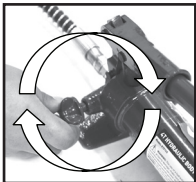
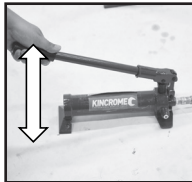

Fig.11
Fig.12
- To operate the hydraulic pump, position it on a stable, leveled surface close to the damaged area/work area. Ensure the release valve (9) is closed by turning it clockwise (Fig 11), then pump the handle (2) to create pressure (Fig 12).